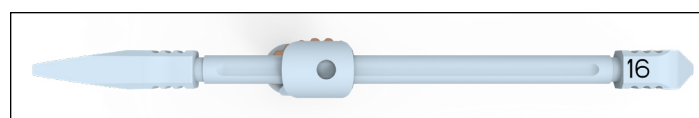

Figure 7
- In a native joint for a **Triathlon Hinge procedure**, to maintain the joint line, the minimum tibial resection from the native **joint line is 16mm**. 16mm of bone will be resected with the initial proximal resection when using the “16” end of the Hinge Tibial Stylus (**Figure 7**).